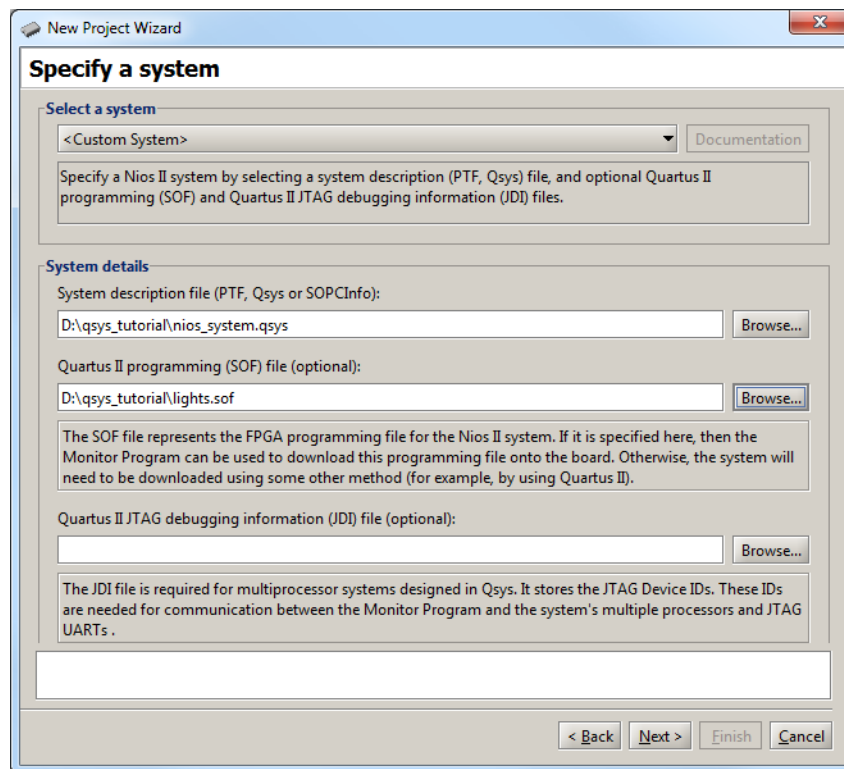

Figure 28. The System Specification window.
2. Enter *lights\_example* (or some other name) as the Project name and click **Next**, leading to Figure 28.
Select the *lights.sof* file in the **Quartus II programming (SOF) file** field, which provides the information needed to download the designed system into the FPGA device on the DE-series board. Click **Next**, which leads to the window in Figure 28.